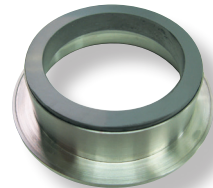

Figure 16
- 6.7 *For sizes  $\leq 2.750$  inch (70 mm)* align the flats on the inboard stationary face [14] with the flats on the inside of the inner gland [11], and press the stationary face in place using finger pressure only. See Figure 16.